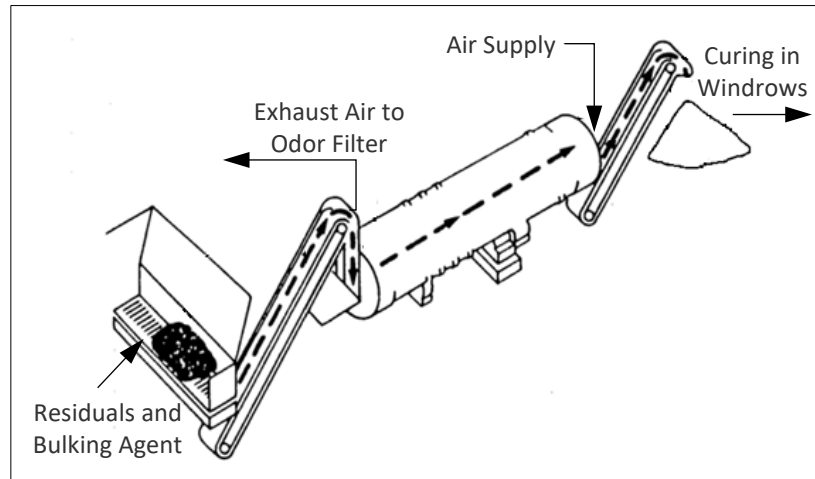

Figure 4-8. In-vessel composting.
- ***In-vessel method.*** In-vessel composting is similar to forced air static pile composting but takes place in a tank or vessel. Raw or digested residuals are mechanically mixed and fed into a silo, tunnel, channel, or vessel. Augers, conveyors, rams, or other devices are used to aerate, mix, and move the material through the vessel to the discharge point. Air is blown into or drawn out of the vessel while the moisture content is maintained, and the temperature is closely monitored (Figure 4-8).